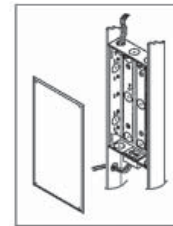

Fig 2
2. When using the side slots, position the enclosure with the front to protrude beyond the wallboard surface, which will match the finished wall. Mark the center of the mounting slots, this allows for further adjustment to match the finished wall. Drill pilot holes and install the enclosure with wood screws. When using the mounting tabs, select the proper holes (A-5/8", B-1/2" or C-3/8") for wallboard. When using the mounting holes, attach the unit to the wall with screw anchors recommended to support the weight of the enclosure and variety of modules. (Fig 2)